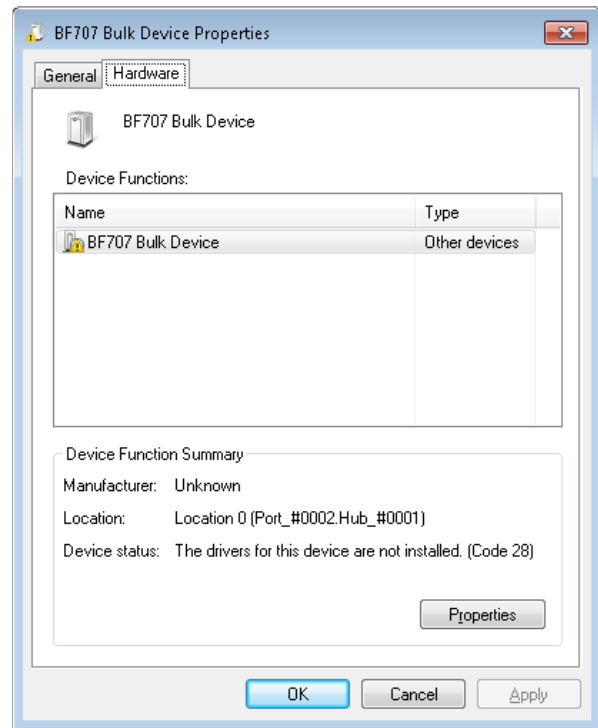

Figure 8. **Hardware** Tab
2. Click **Properties** in the **Hardware** tab (see Figure 8).